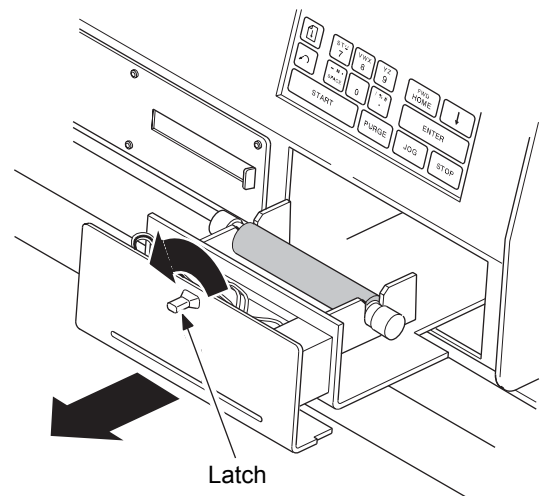

Figure 74 Opening the Data Recording Printer Drawer
1. Turn the latch counter-clockwise to release the printer body from the case. Remove the printer body from the case by pulling it forward. See Figure 74.